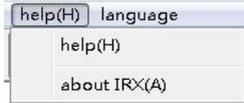

Figure 5-17
- Click the “help” to open the user manual, and click “about IRX” to look up the software information. As shown in the figure 5-17.